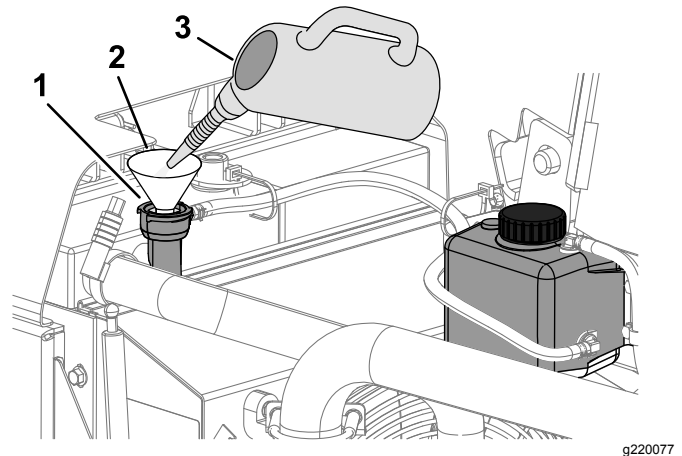

Figure 107
- B. Add a cooling system cleaning solution to the radiator through the filler neck (Figure 107).